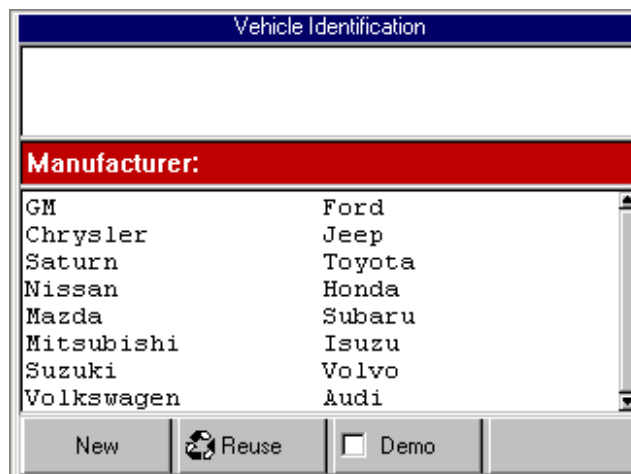

Figure 2.4: Vehicle Information - Manufacturer Screen
- 3 Select **USA 2005 ABS/Airbag** and press the **ENTER** key. This displays the first Vehicle Information screen (Refer to figure 2.4 on page 27).